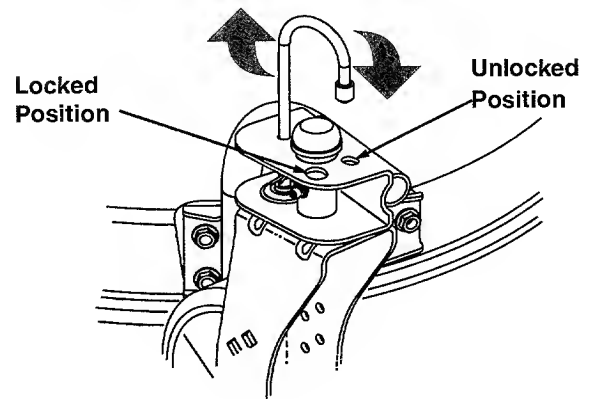

Figure 8
- Push primer three times. See Figure 8. Wait about two seconds between each push. In cold weather around 55° F or below, prime five times. **Do not prime to restart a warm engine** after a short shutdown.
- **To lock caster:** Lift and place the lock pin in the larger hole on each caster. See Figure 8.
- **To unlock caster:** Lift and place the lock pin in the smaller hole to allow casters to rotate freely. See Figure 8.